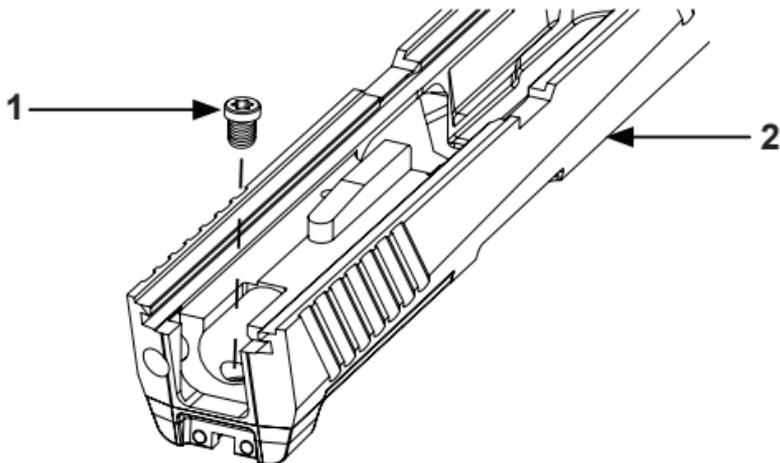

Figure 7. Remove Sight Plate Screw.
7. Use a T15 Torx[®] bit to remove rear sight plate screw (Figure 7, Item 1) from slide (Figure 7, Item 2). Do not reuse this rear sight plate screw. Use new screw provided with ROMEO-M17 optic.